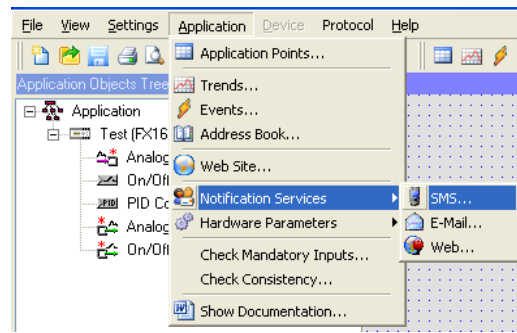
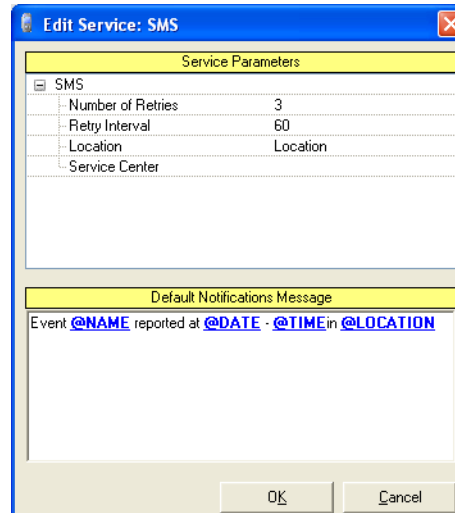

Figure 211: Accessing the SMS Service Parameters
Figure 212: Editing SMS Service Parameters
1. Right-click the Application menu item and select Notification Services and then SMS (Figure 211). The Edit Service: SMS window appears (Figure 212).